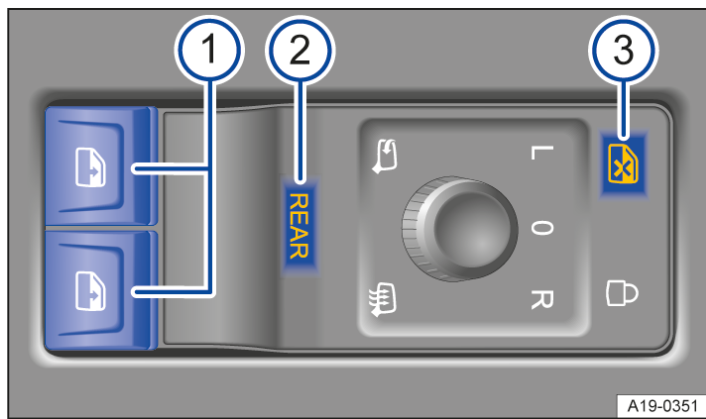

Fig. 1 In the driver door: buttons for the front and rear electric windows
- ① Buttons for electric windows.
- ② Touch panel **REAR** for activating operation of the rear electric windows and convenience opening and closing.
- ③ Control button for deactivating the electric window buttons in the rear doors.
As the default setting, electric windows in the front doors can be operated with the buttons  → Fig. 1 ①.